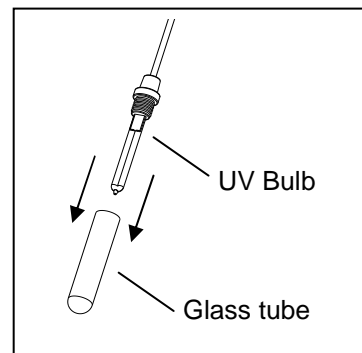

Fig. 14
10. Note: In the unlikely event the UV bulb needs replacing, remove glass tube by pulling straight apart by holding the base of the lamp. Gently pull bulb straight apart from the bulb socket and insert the replacement bulb in the reverse manner careful not to bend the wires at the stem of the bulb. Fig. 14